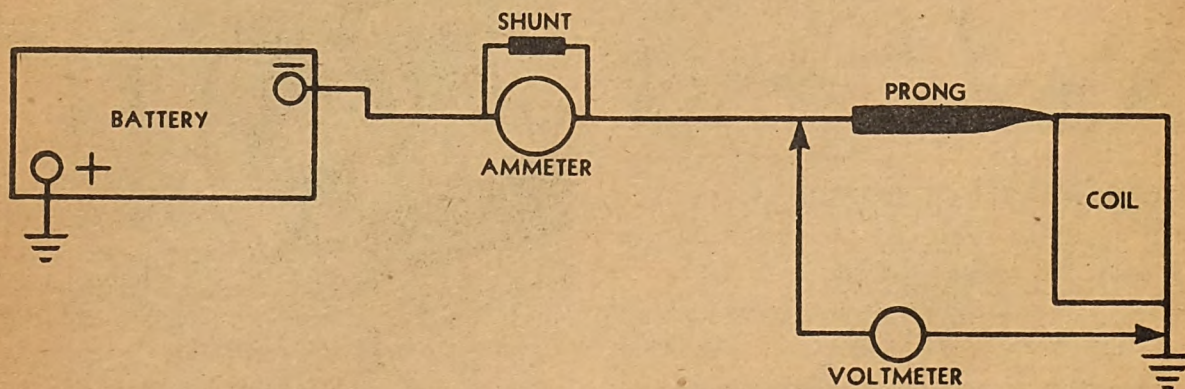

Fig. 228. Testing Field Coil
field winding. (See Figure 228.) Determine whether the winding is grounded to the field ring or to the pole pieces. If the field coils are grounded, they can be removed as described in paragraph 73f, item 7.